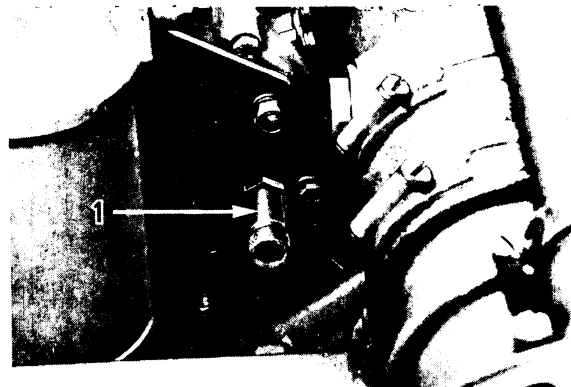

Fig. 11 (e)
1. Screw out anti-stall device by two or three turns (refer to fig. 11 (e) for V8.510 engines).